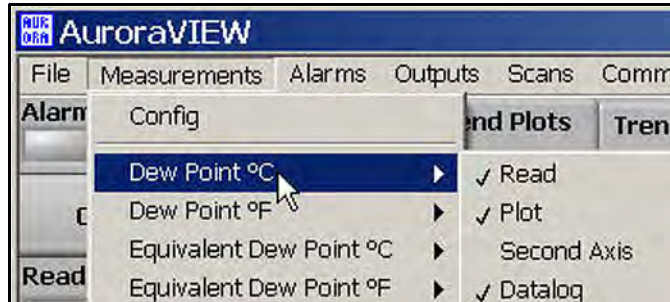

Figure 57: Other Measurement Options
**Note:** *The other options under MEASUREMENTS are for individual unit types and perform the same function as checking a box under the CONFIG pop-up window (see Figure 57 below).*